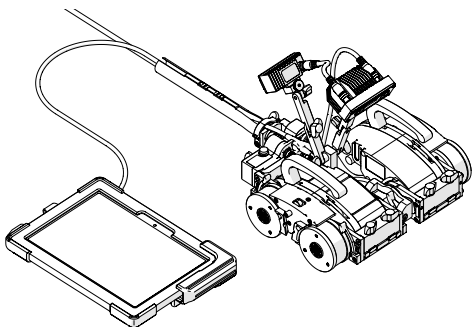

Fig. 38 - Connect satellite camera cable to both cameras
6. Connect the tablet to the camera cable (Fig. 38).